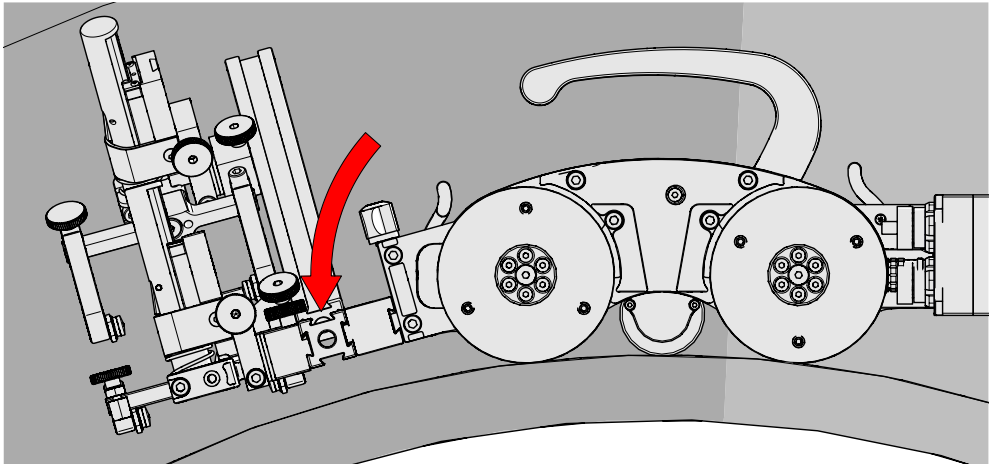

Fig. 251 - Align swivel mount with scan surface
3. Release the front swivel mount adjustment levers to align the swivel mount parallel to the scan surface (*Fig. 251*).